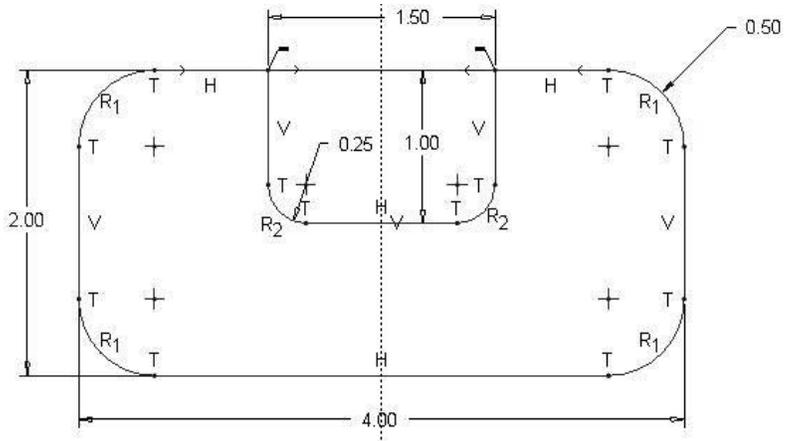

Figure 3-39 Symmetry and Rounds
Step 45: Use  to round the inside corners of the cutout to a radius of 0.25 inches (Figure 3-39). There should be only three additional dimensions on the sketch, 1.50, 1.00, and 0.25. Note that this tool leaves a dot where the corner used to be.